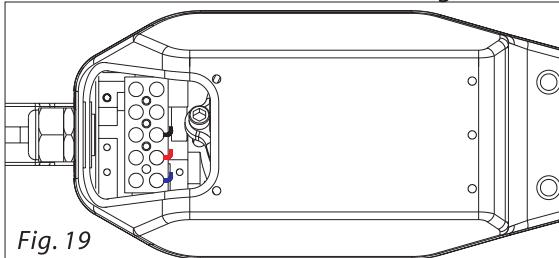

Fig. 19
2) Connect the motor and the earthing with reference to Fig. 19 (if supplied without cables)